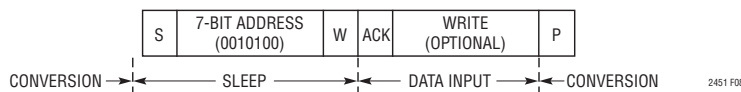

Figure 8. Start a New Conversion without Reading Old Conversion Result
At the conclusion of a conversion cycle, a Write cycle can be initiated. Once the Write cycle is acknowledged, a Stop (P) command initiates a new conversion. If a new configuration is required, this data can be written into the device and a Stop command initiates a new conversion (see Figure 8).